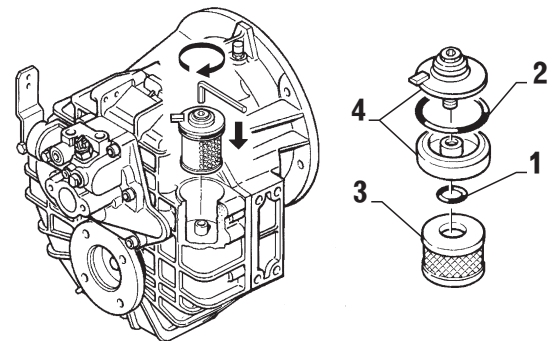

FIG. 7-1
- Wet O-rings (item 1 and 2, Fig. 7-1) with some ATF fluid and mount them.
- Install filter element (item 3, Fig. 7-1) into the transmission.
- Lock cover (item 4 Fig. 7-1) to the transmission using an allen wrench. Tightening torque: min. 5 Nm - max 8 Nm (min. 4 ft.lb. - max 6 ft.lb.)